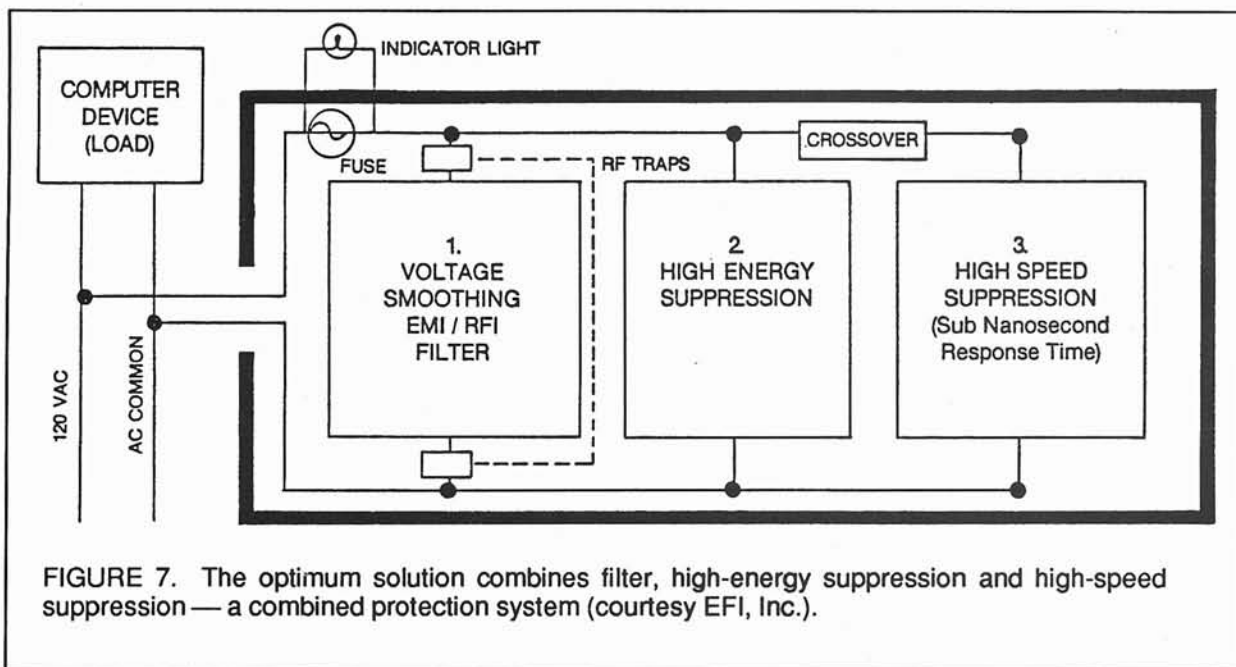

FIGURE 7. The optimum solution combines filter, high-energy suppression and high-speed suppression — a combined protection system (courtesy EFI, Inc.).
4. EMI/RFI Voltage-Smoothing Filters should be incorporated into a network of high-speed and high-energy suppressors to kill harmonic ringing which is sometimes generated as the transient is clipped off to a low-amplitude, high-energy, square-wave. Figure 7 shows an EFI combination protection system.